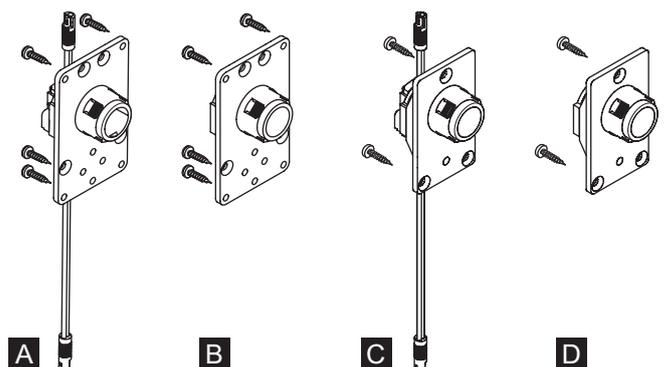

Fig. 2: Version of the various holder sets
- Mono 20 holder set with power cable, electrified (Fig. 2/A) with separate cover clip.
- Mono 20 holder set, non-electrified (Fig. 2/B), with separate cover clip.
- Mono 20 light holder set with power cable, electrified (Fig. 2/C) with separate cover clip.
- Mono 20 light holder set, non-electrified (Fig. 2/D), with separate cover clip.